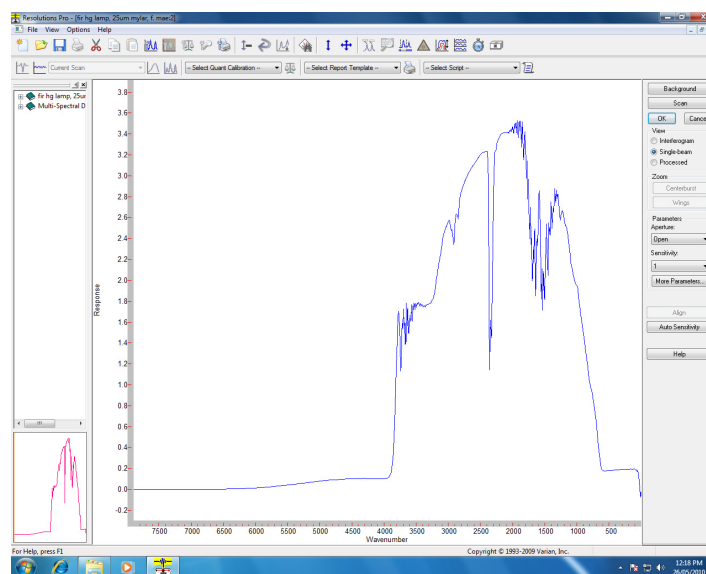
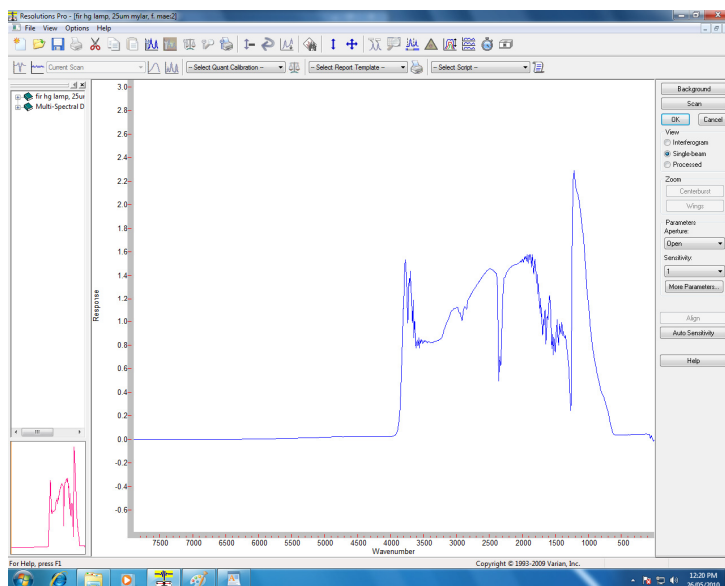

Figure 5. Single beam spectrum of the coated side of the test slide
Figure 6. Spectrum of the glass side of the test slide
- 6 Select **Single Beam** while in ‘Signal Monitor’ and check that the slide is correctly positioned. Figure 5 shows a spectrum of the coated side and Figure 6 shows a spectrum of the glass side.**